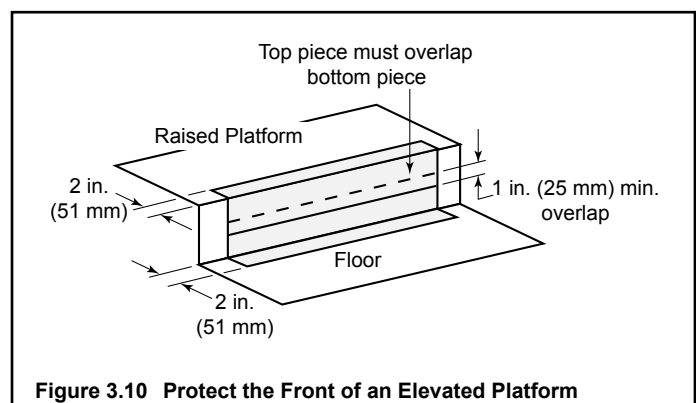

Figure 3.10 Protect the Front of an Elevated Platform
- Protect the front of a platform elevated above the front of the hearth extension with metal strips (not included with fireplace) per Figure 3.10. See Section 7 for hearth extension instructions.